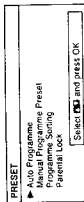

Fig. 3.
- 1 Select »Preset« with or and press OK. The PRESET menu appears. (See Fig. 3.)